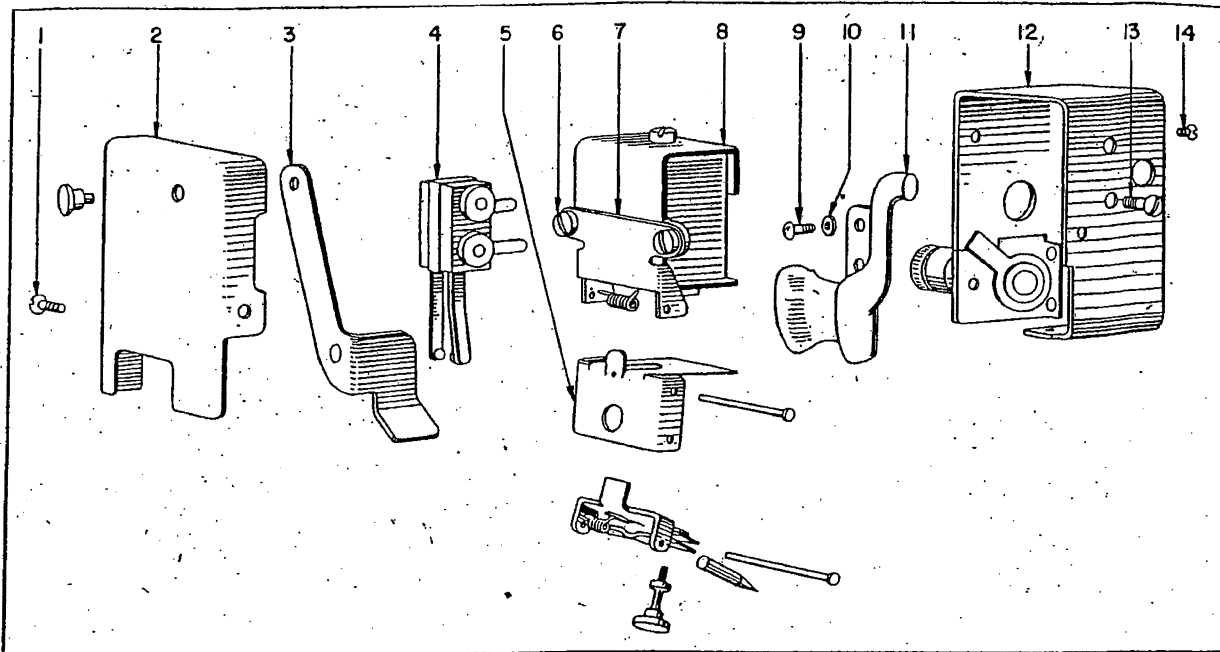

Figure 19—Marker Assembly
s. **MARKER HOUSING ASSEMBLY.** (See figure 19.)—Remove housing cover assembly (2) by unscrewing three binding head screws (1). Trigger (3) remains riveted to housing cover assembly (2). Remove two round-head screws (6) to release the combination armature hinge bracket (7), armature (5), and marking mechanism. From side of housing, remove two binding head screws (13) supporting the switch assembly. From the rear of the housing, remove two flat-head screws (14), supporting the solenoid (8). Remove two round head screws (9) and lock washers (10) which will free the light guide (11). Unsolder wiring as required.
a. **MARKER HOUSING ASSEMBLY.** (See figure 19.)—To the marker housing (12) attach the light guide (11) with two round-head screws (9) and lock washers (10). Then by inserting two flat-head screws (14) through the rear of the marker housing (12), at-
KEY TO FIGURE 19